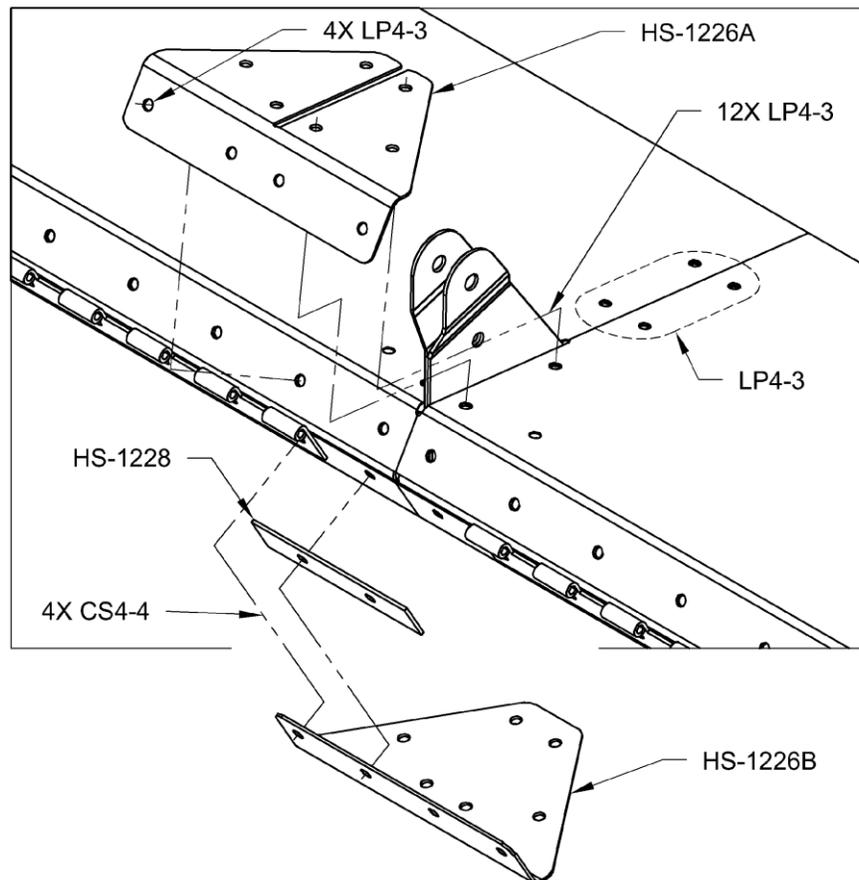

FIGURE 8: INSTALL SPACER & DOUBLERS
Step 18 (Cracked Skins): Cleco the HS-1226A, HS-1226B and HS-1228 Spacer to the AST as shown in Figure 8.